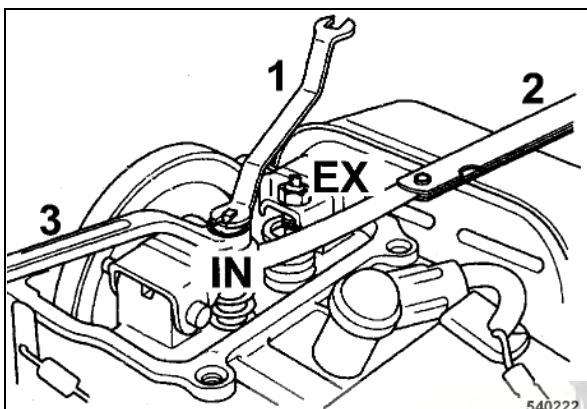

Fig. 48 □
- Measure the valve clearance between valve adjustment screw and valve with a feeler gauge 2 (Fig. 48).